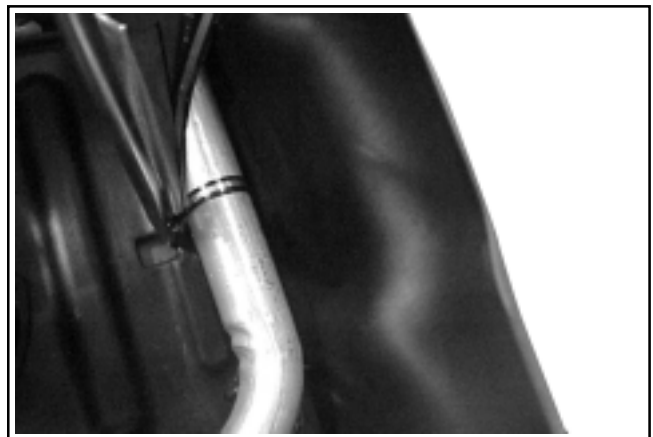

Figure 11-81. Tightening Tie Strap with Pliers.
5. Push down on the lower tube/hose assembly and **securely tighten** the metal tie strap around the lower tube/hose assembly using a pliers. Make sure the head of tie strap is below the top of the tube where it will not be contacted by the flywheel. Cut off all excess strap material. See Figure 11-81.